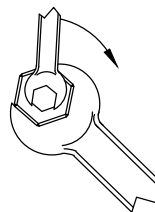
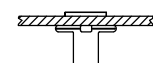

Figure 13: Plusnut tightening.
Figure 14: Fully upset Plusnut.
10. **Tighten** the hex bolt while holding the 1/4" nut (Figure 13). Fully upset Plusnut provides mounting nut to attach the top angle bracket (Figure 14).